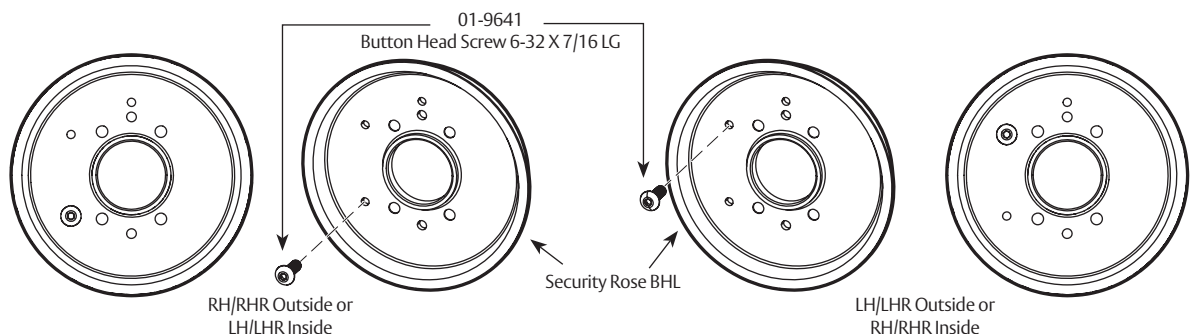

Figure 5
- Install button head screw into each rose. Use a 5/64" hex key to tighten screw firmly to rose. (Figure 5)